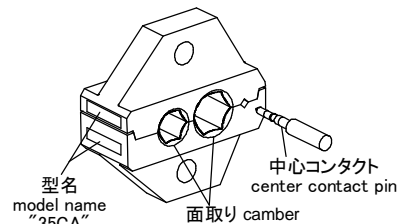

Fig.1
1. Slide the crimp sleeve over the cable and strip the sheath, braided shield, and insulation of the coaxial cable as shown in Fig. 1. For cables with an aluminum foil shield, strip the shield as far as position A, as shown in Fig. 1.
- (Note6) If using coaxial cable "3C-2T", cut off the overall tape between the braided shields as far as position A, as shown in Fig. 1.